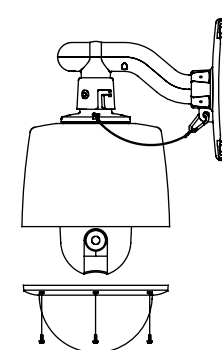

FIG. 8
- Screw up the bubble rightly to prevent water leakage. (FIG. 8)